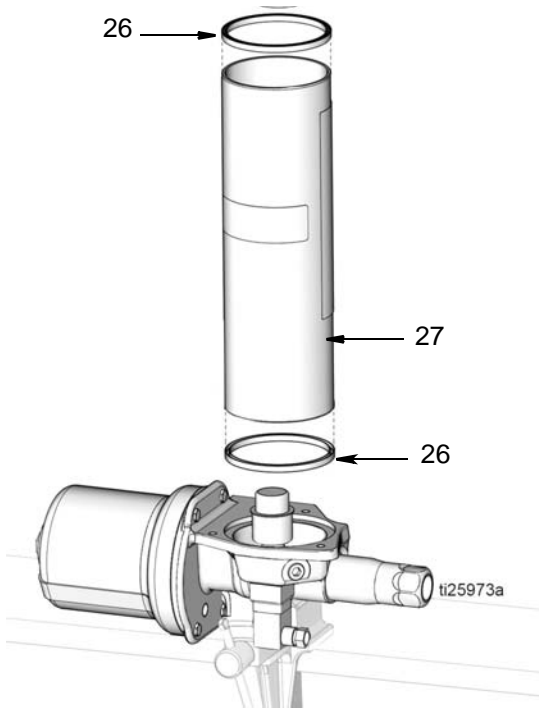

FIG. 56
10. Install reservoir gaskets (26) to top and bottom of reservoir (27) as shown in FIG. 56.